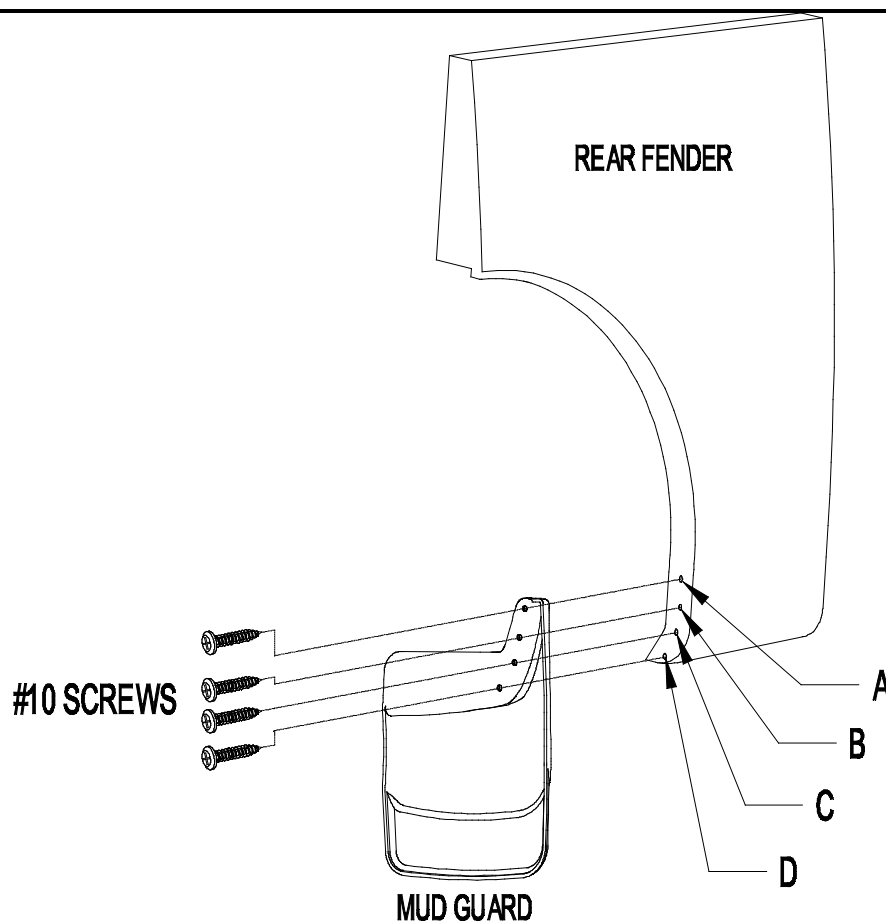

Figure 1
2. Using mud guard as a template, mark, center punch, and drill 1/8" hole at location A (Figure 1).